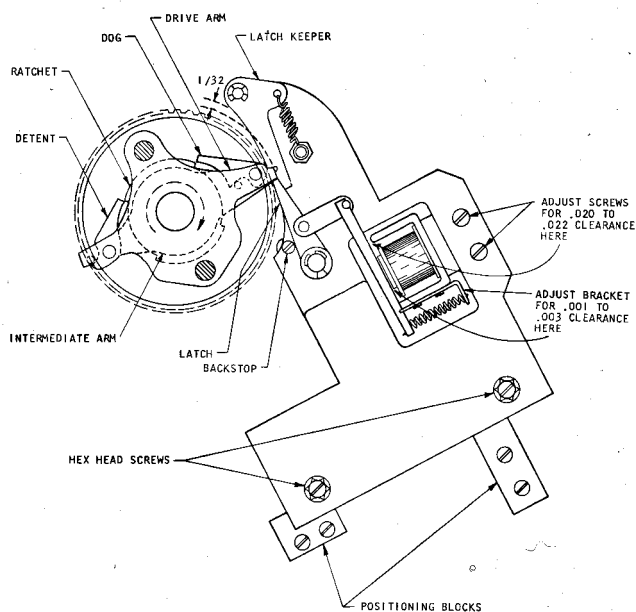

Figure 8. Magnet Assembly Adjustment
To see the engaging action of the clutch, assume the clutch is latched as shown in Figure 8.
1. Adjust the armature pivot bracket to maintain a .001" to .003" clearance between armature and core (Figure 8).
2. While holding the keeper down, crank the machine and listen or feel for the keeper to fall behind the drive arm. This should happen at  $315^\circ \pm 1^\circ$  (Figure 8).